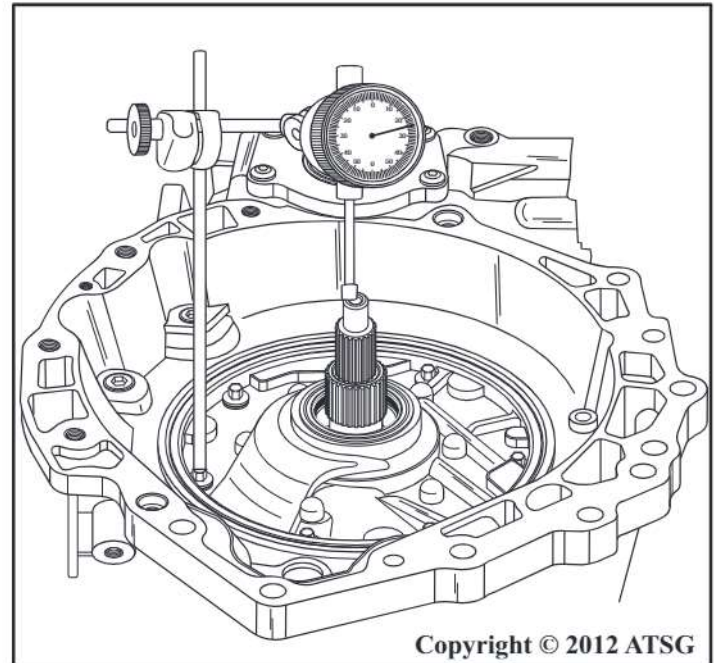

Figure 59
35. Maneuver transaxle so the input shaft is vertical, as shown in Figure 59, and install dial indicator.